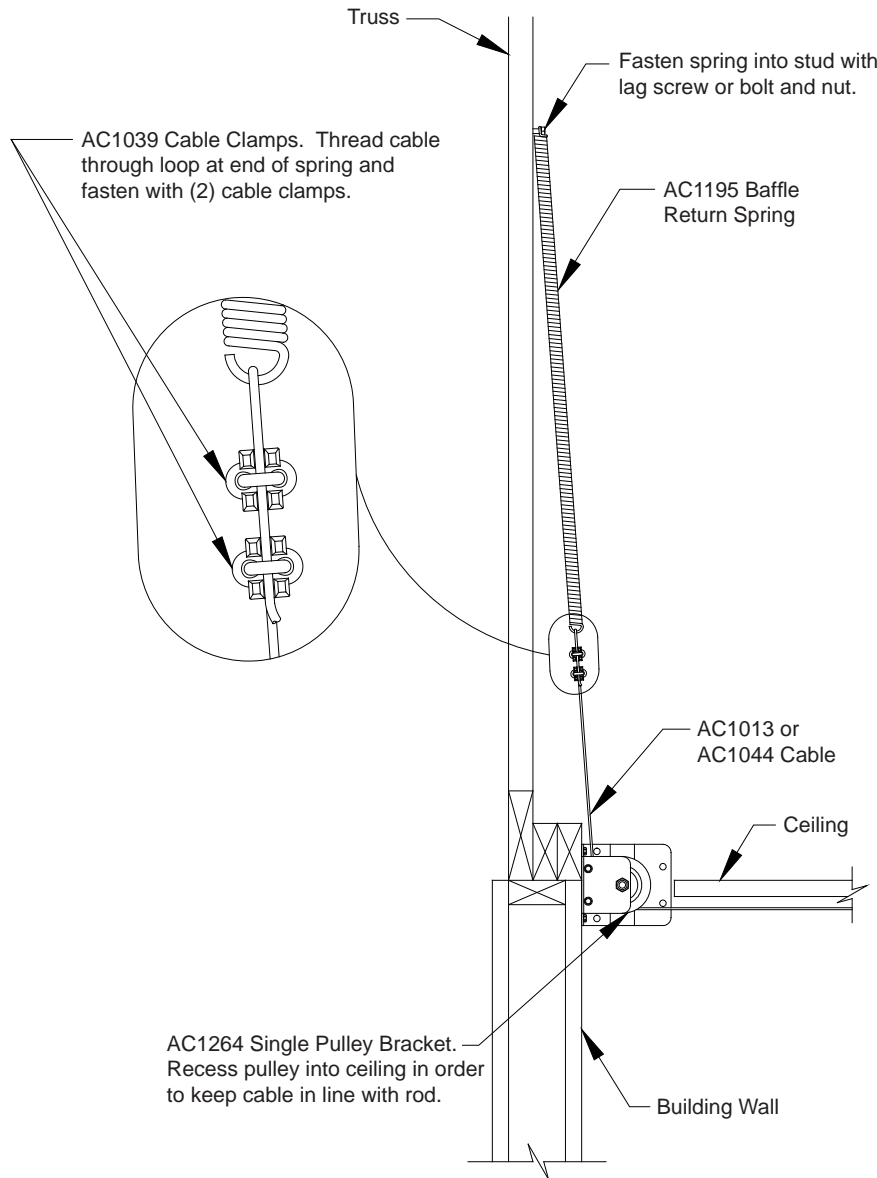

Figure 5
- D. Loop another section of cable through last turnbuckle and fasten it to itself with cable clamps. Fasten other end of cable to weights or return spring. See Figure 5.